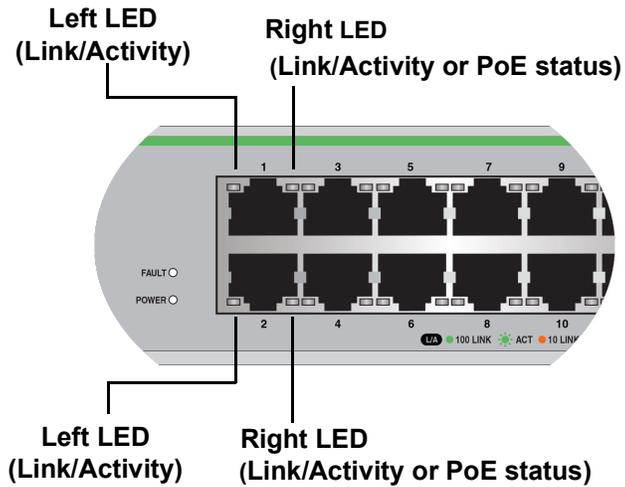

Figure 22. 10/100Base-TX Port LEDs
**System LEDs** The switch has power and fault LEDs as shown in Figure 22.
The 10/100Base-TX twisted pair ports have link/activity and duplex mode/PoE status LEDs. See Figure 22.
The 10/100/1000Base-TX twisted pair ports have link/activity and duplex mode LEDs. Refer to Figure 22.